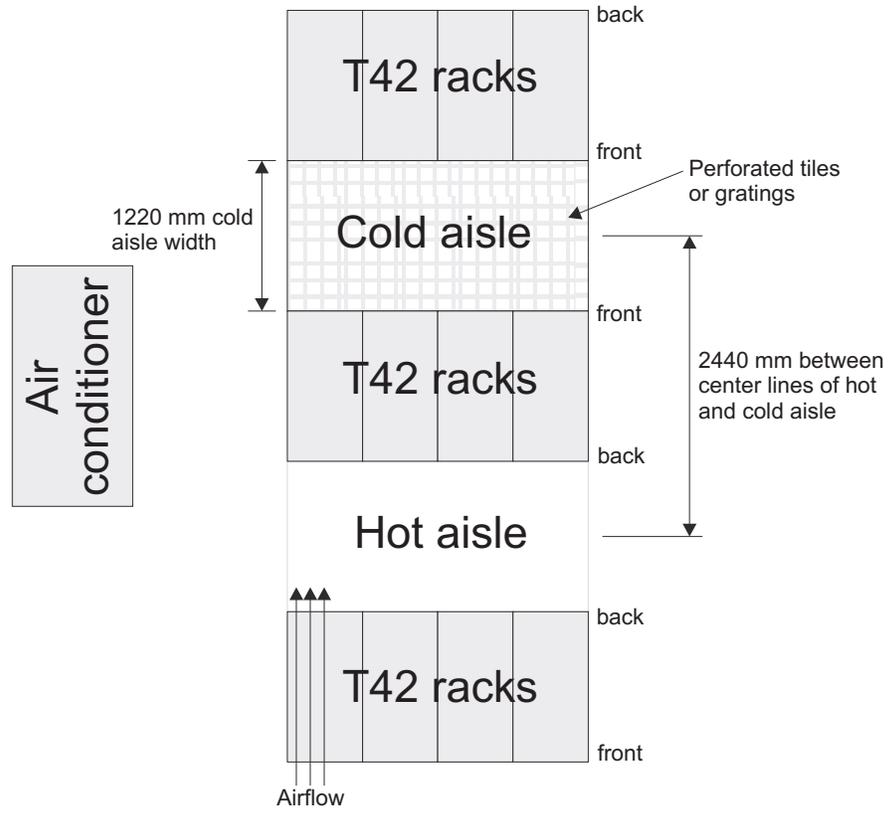

Figure 11. Example of cold aisle/hot aisle rack configuration
- Air enters at the front of the rack and leaves at the back. To prevent the air that is leaving the rack from entering the intake of another piece of equipment, you must position the racks in alternate rows, back-to-back and front-to-front. This arrangement is known as “cold aisle/hot aisle” and is shown in Figure 11 on page 21.